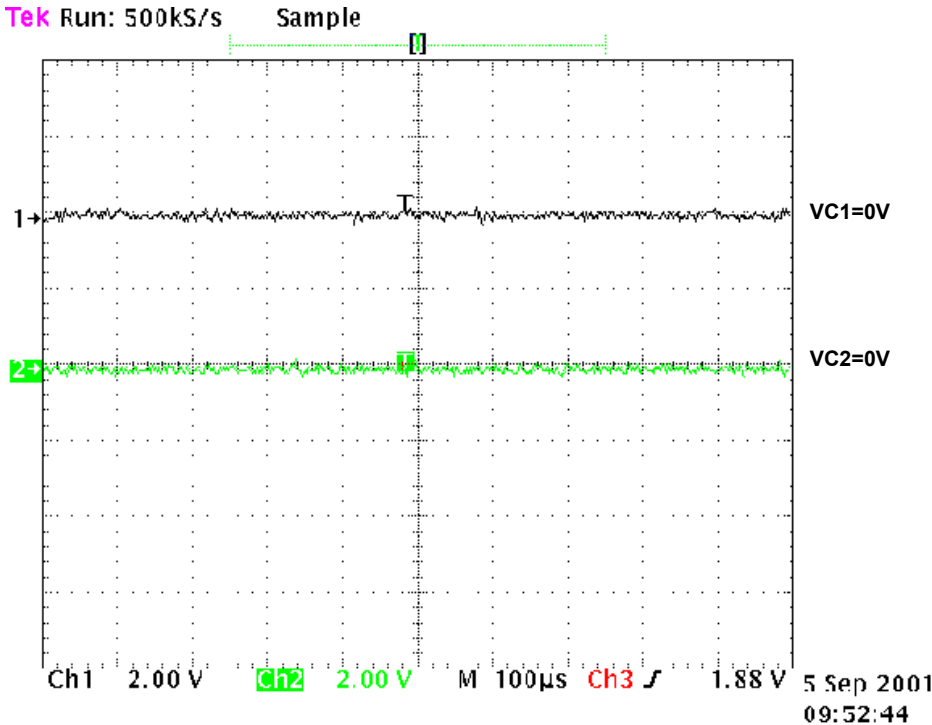

Figure 3-15. Control Signal (VC1,VC2) in Rx mode (GSM, DCS both).
1. The Control Signal of FEM (see Fig. 3-15, 16, 17)